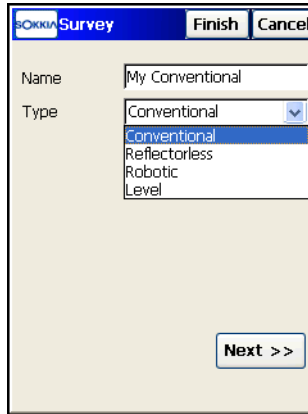

Figure 4-68. Survey
2. On the *Survey* screen, enter a name for the Configuration and select its type, then tap **Next** (Figure 4-68 on page 4-53).